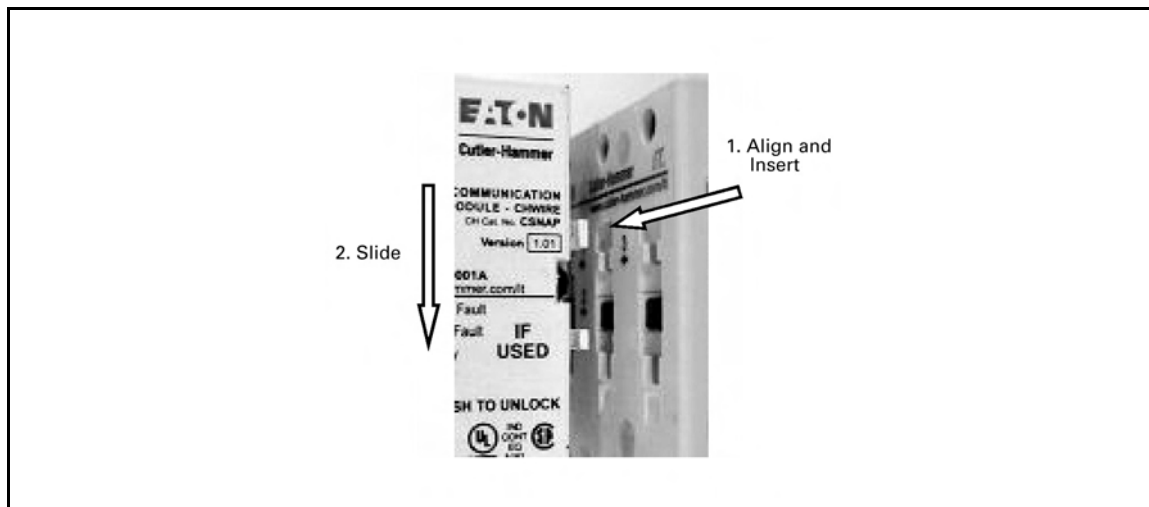

Figure 13: D77B-QSNAP Alignment and Mounting
Use the following steps and illustration in **Figure 13** to mount the D77B-QSNAP:
1. Align and insert both D77B-QSNAP feet into the auxiliary starter contact mounting slots, as illustrated in **Figure 13**.